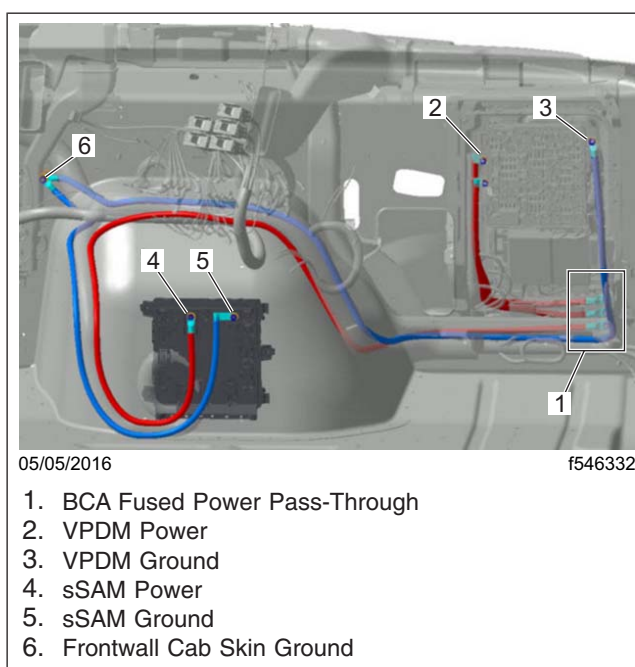

Fig. 1, sSAM Ground Locations
5. Check the torque at the single SAM (sSAM) ground. See Fig. 1. Loosen the nut and torque to 9 lbf·ft (12 N·m).